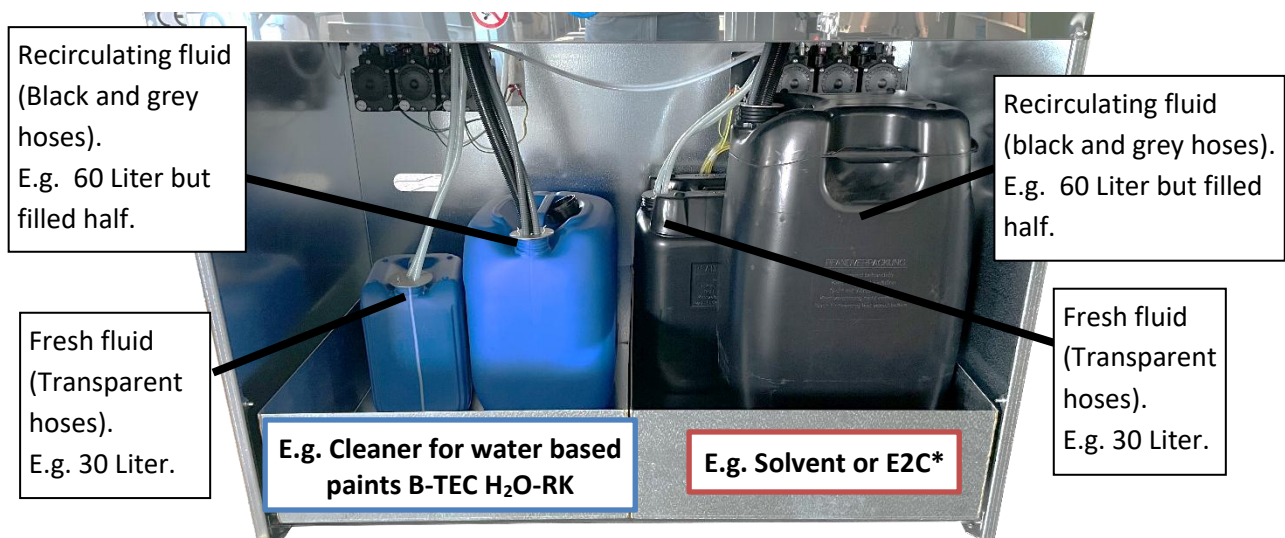

Figure 9-1 – Example water-based cleaner on the left side, solvent on the right side
1. Remove the front cover and place the containers as shown in Figure 9-1 (right side).
3. Remove the front door from the unit (if present) and position the 30 litre canister and the empty 10 litre canister under the unit (in the roller bund, if present) as shown in Figure 9-1 (left side).